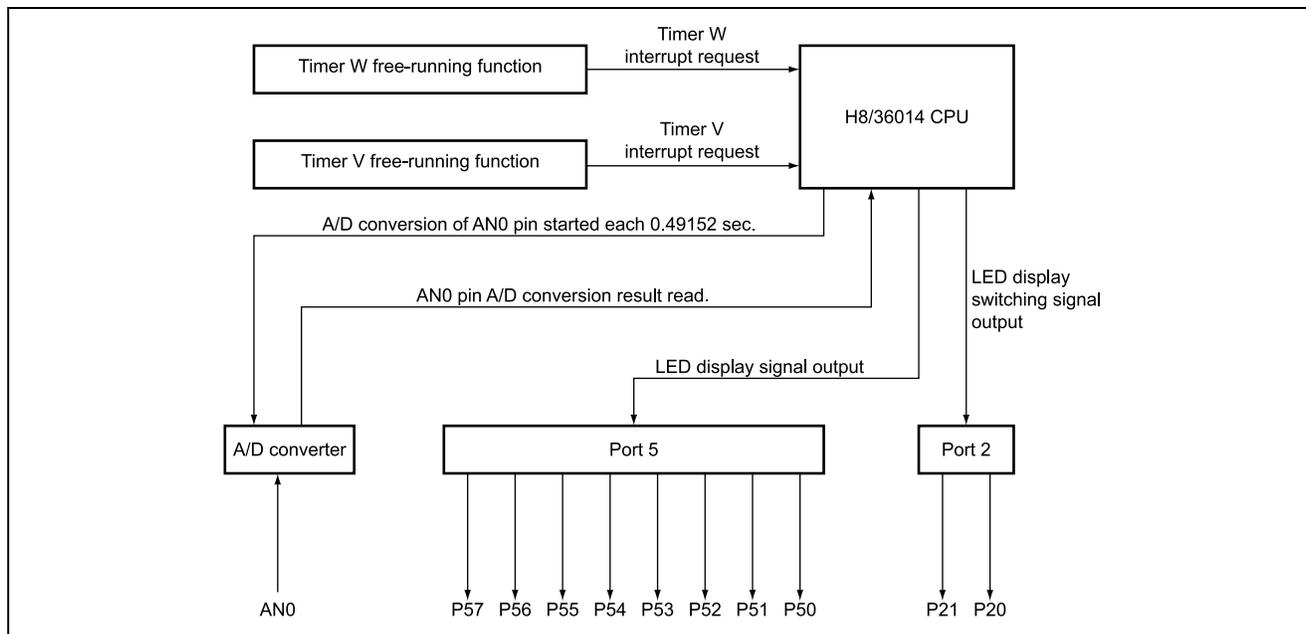

Figure 2.1 Block Diagram of Functions Used
1. Figure 2.1 is a block diagram of the H8/36014 functions used in this sample task; table 2.1 shows function allocations.